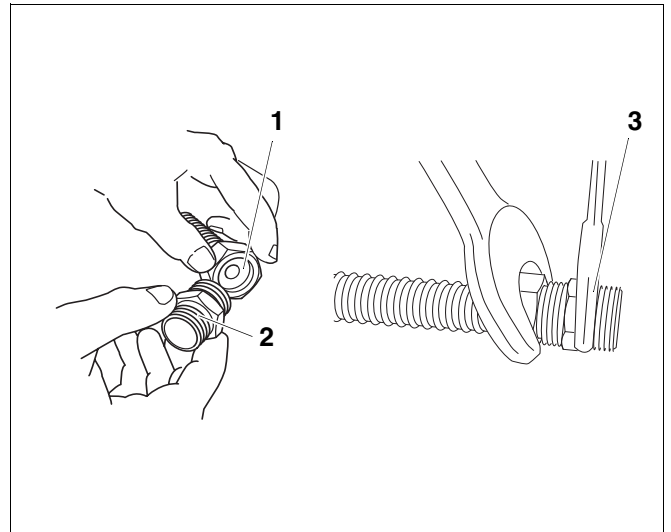

Fig. 3 Create the sealing seat
- Insert the chassis disc (Fig. 3, **item 1**) into the union nut.
- Insert the dual nipple (Fig. 3, **item 2**) by turning it by hand.
- Now tighten the dual nipple (Fig. 3, **item 3**) against the nut.